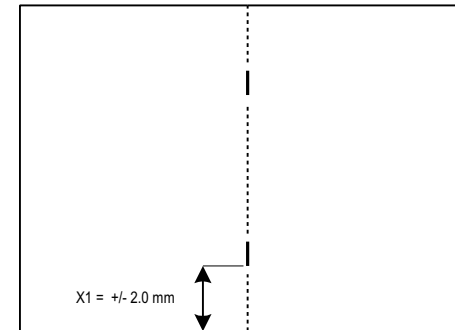

Figure 1 Staple Specification
2. Check output against specifications in Figure 1. Repeat the **Check** and **Adjustment** until the Fold Position meets specification or customer request.